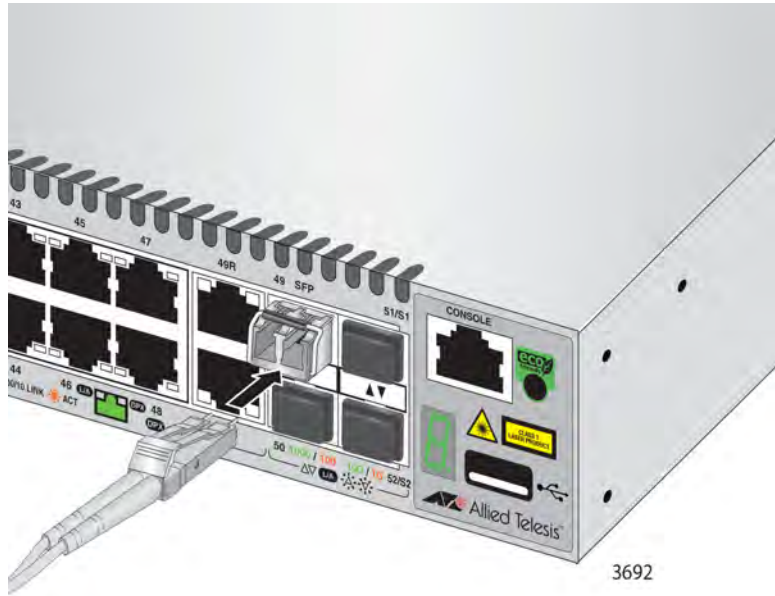

Figure 56. Connecting a Fiber Optic Cable to an SFP Transceiver
7. Connect the fiber optic cable to the transceiver, as shown in Figure 56 on page 107. The connector on the cable should fit snugly into the port, and the tab should lock the connector into place.